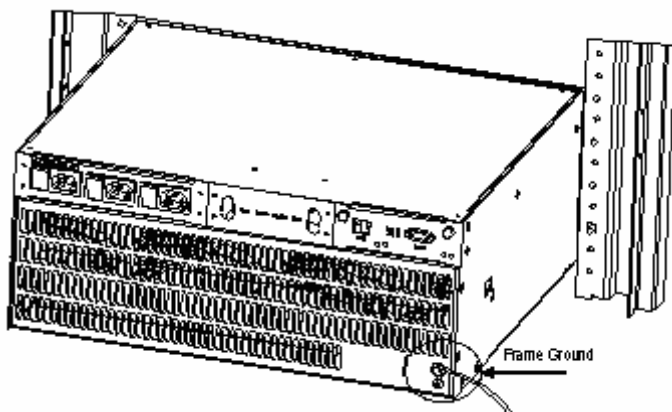

Figure 4-3 Frame grounding
- 1) Recommended the 16 mm² cable with a M6 single hole terminal lug is connected to PE grounding terminal on the rear of the chassis, as shown in Figure 4-3.